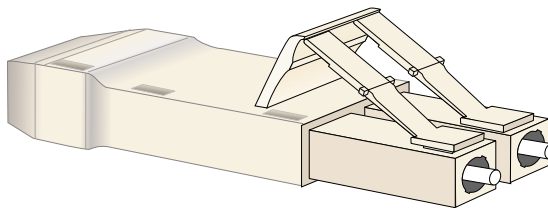

Figure 1-12 Loopback Plug
- **Loopback plug** - An SFP multimode (shortwave laser) or singlemode (longwave laser) loopback plug (Figure 1-12) is required to perform port loopback diagnostic tests. One loopback plug is shipped with the switch, depending on the type of port transceivers installed. Both plugs are shipped if shortwave laser and longwave laser transceivers are installed.